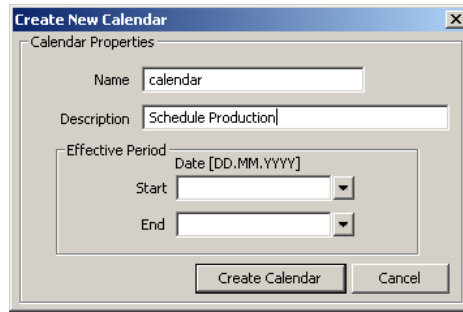

Figure 131: Create New Calendar dialog box
3. In the Create New Calendar dialog box (as shown in Figure 131) enter Name and Description of the calendar. Note, that a BACnet calendar does not have the **Effective Period** settings.